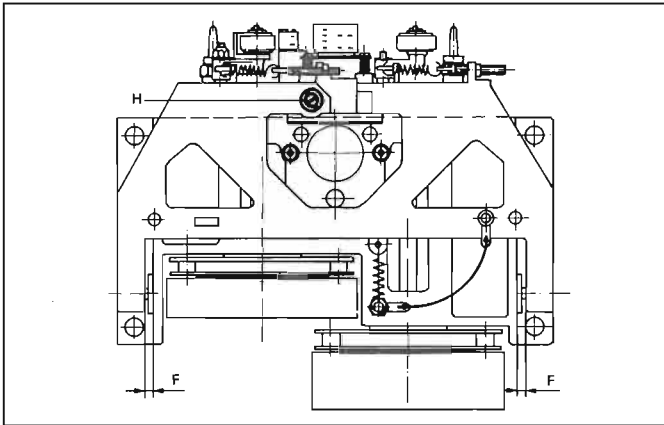
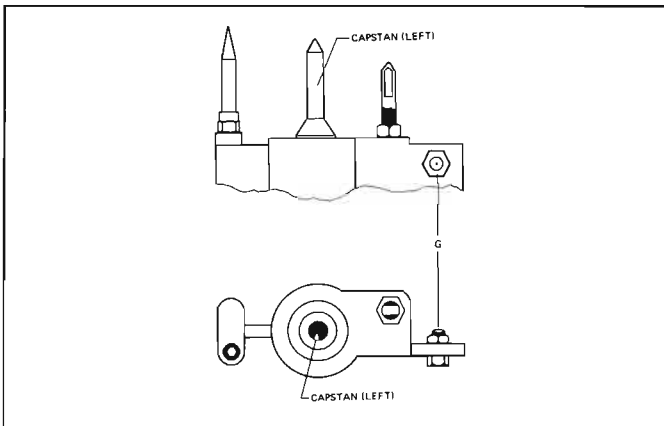

Fig. 3.3
Fig. 3.4
If at all possible, the pivoting carrier should neither be removed nor should the engaged length be altered. Heads and pinch rollers etc. can be replaced without removing the pivoting carrier. The pivoting carrier is connected to ground via a stranded ground wire next to the retraction spring [E] (Fig. 3.3, bottom view).
- Check that the two slotted set screws are adjusted on the pivot of the carrier in such a way that the distance between pivoting carrier and double capstan carrier [F] is identical (Fig. 3.3). The pivoting carrier should turn freely in the pivots and without play. Adjust the set screws, if necessary. Use the special screwdriver (part No. 46161) to first loosen the slotted round nut on the set screws and retighten the nut after the adjustment.
- If the set screws are readjusted, it is necessary to subsequently loosen the centering screw [G] in the double capstan carrier (Fig. 3.4). Push the pivoting carrier up until the cone point of the set screw [H] (Fig. 3.3) plunges into the centering pin and thus recenters the latter.
- Adjust the engaged length with the adjusting screw [H] (Fig. 3.3) in such a way that the opposite end of the measuring slide is located in the range of the milled markings